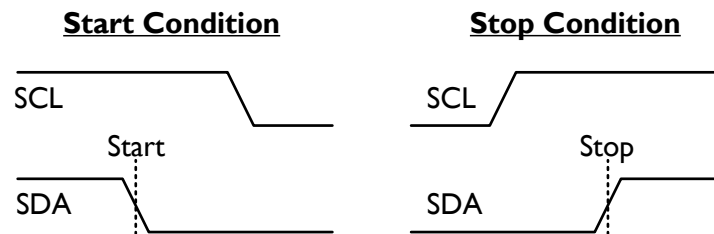

Fig. 7: I²C bus start and stop conditions.
Each transmission is initiated when the master sends a '0' start bit (S), and the transmission is terminated when the master sends a '1' stop bit (P). **These bits are exclusively transmitted while the SCL line is high.** The waveforms corresponding to these conditions are illustrated in Fig. 7.
Once the start condition has been sent, the SCL line is toggled at the prescribed data-rate, clocking subsequent data transfers. Data on the SDA line is always sampled on the rising edge of the SCL line and must remain stable while SCL is high to prevent false Start or Stop conditions (see Fig. 7).